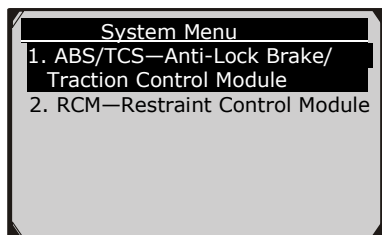

Figure 6.18
- 11) Select the **Control Unit** entry to enter the **System Menu** option screen, and choose the desired **Control Module** entry for DTC information stored in the vehicle's on-board computer. (Figure 6.18)